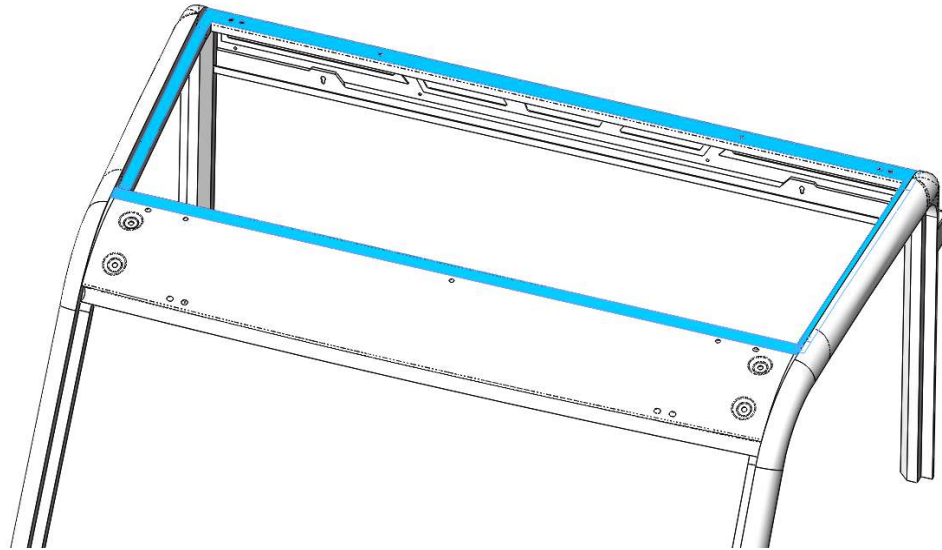

Figure 2: Areas to apply foam tape.
1. Clean the surface of the cage to remove dirt and residue before installing the foam cab sealing tape. Use a mild detergent or paint safe solvent and allow to completely dry. Place the supplied foam tape across the surfaces highlighted in Figure 2 below.